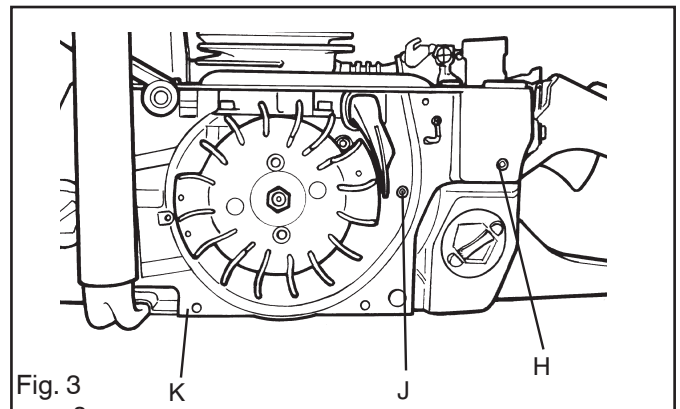

Fig. 3
8. Fit the bolts (H, J and K) on the flywheel side. See fig. 3. Tighten the bolts with the correct torque (see Service Data).